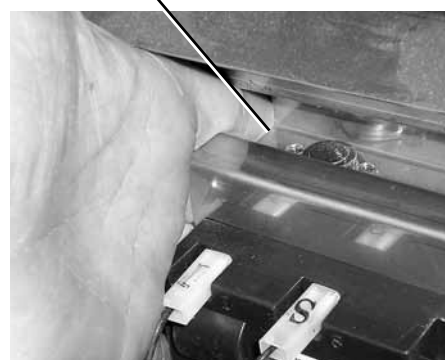

Figure 5
Step 2. Slide your left hand into the fireplace and use your middle finger to feel for two wires connected to the limit switch. Follow up, in between the two wires is the reset button, located on the back of the limit switch. **Refer to Figure 4 and Figure 5 on Page 7 for more detail.**